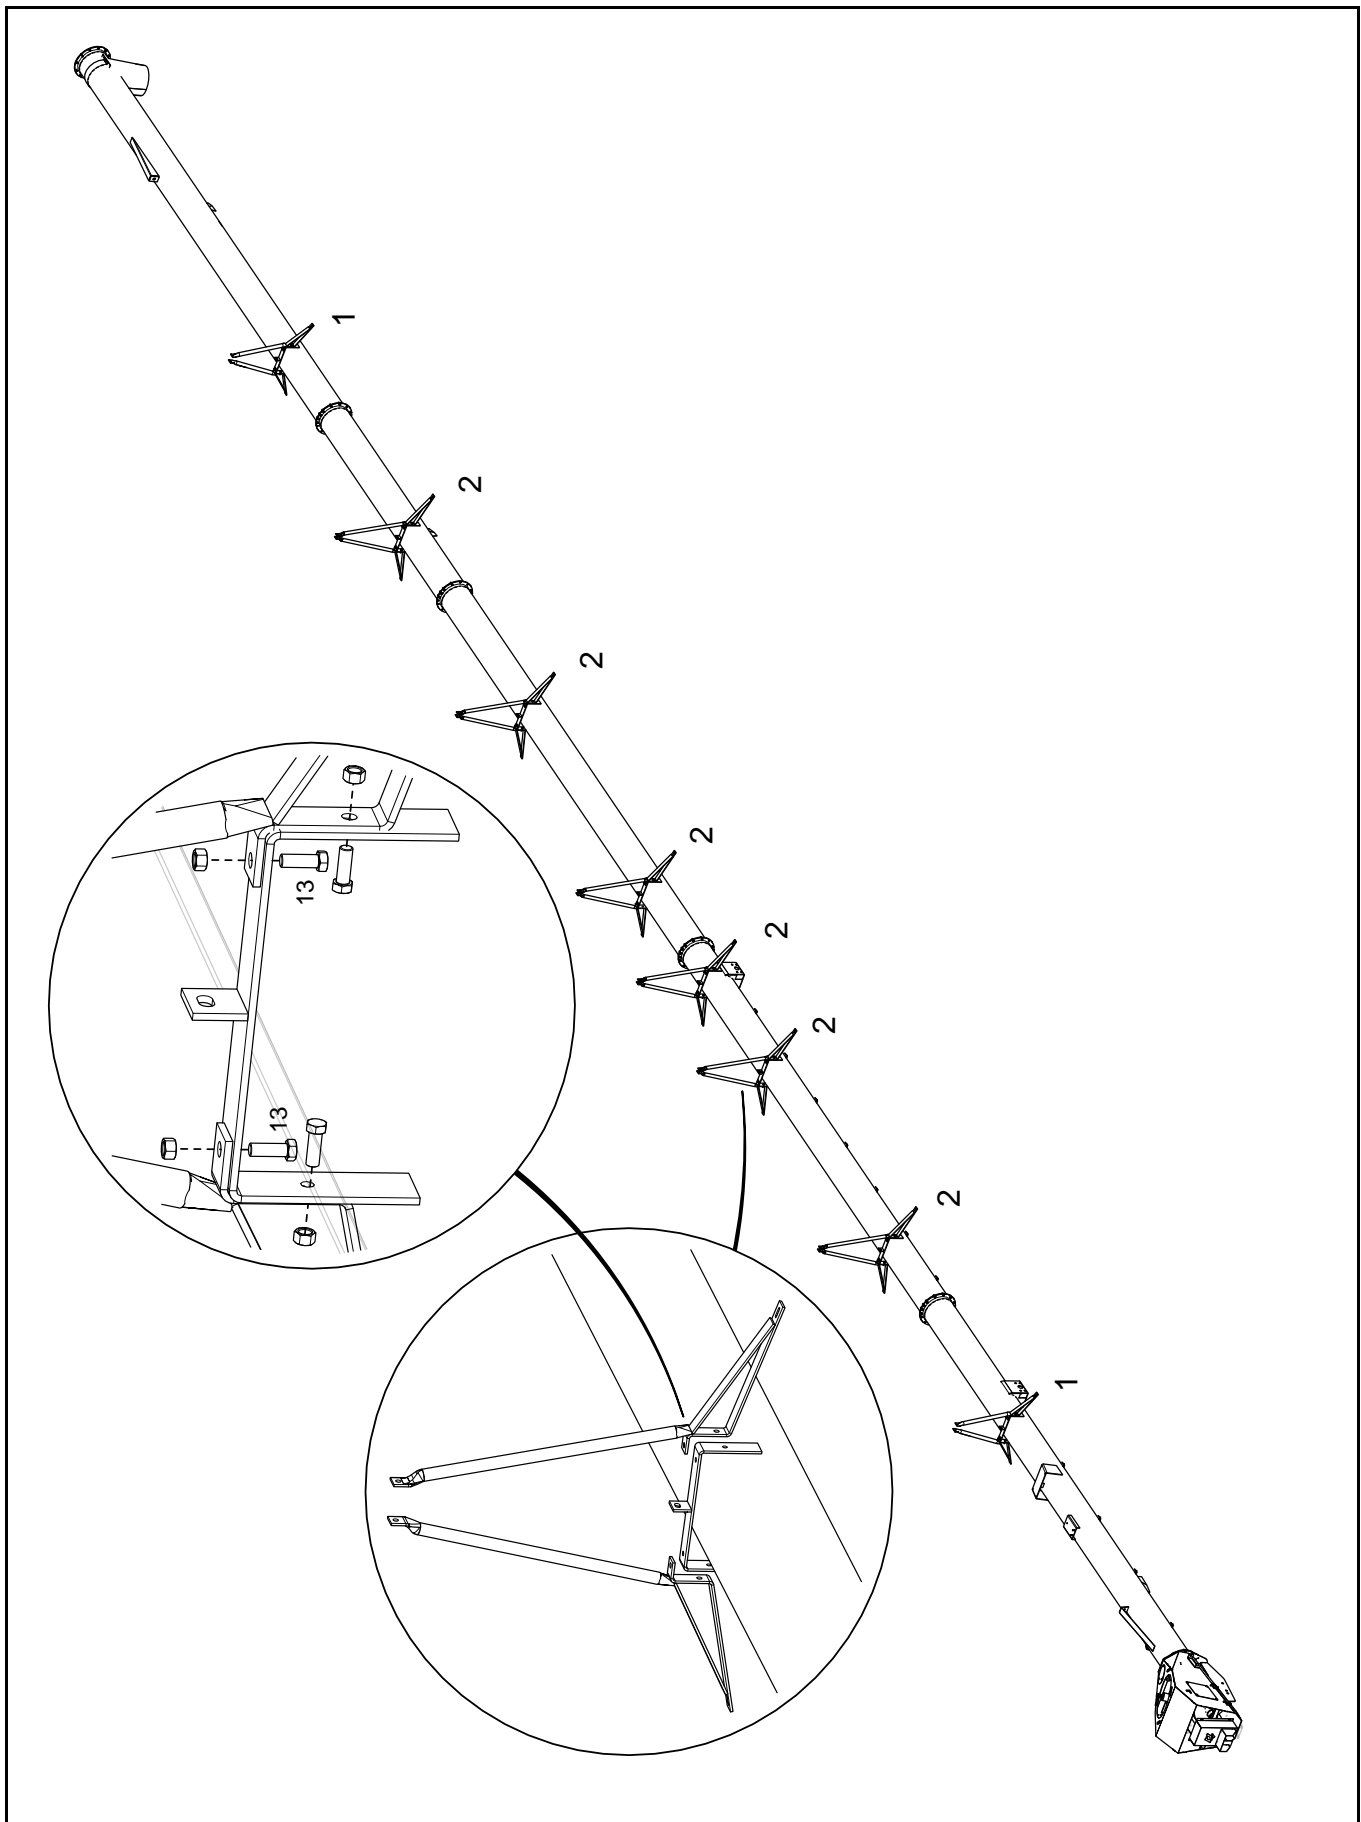
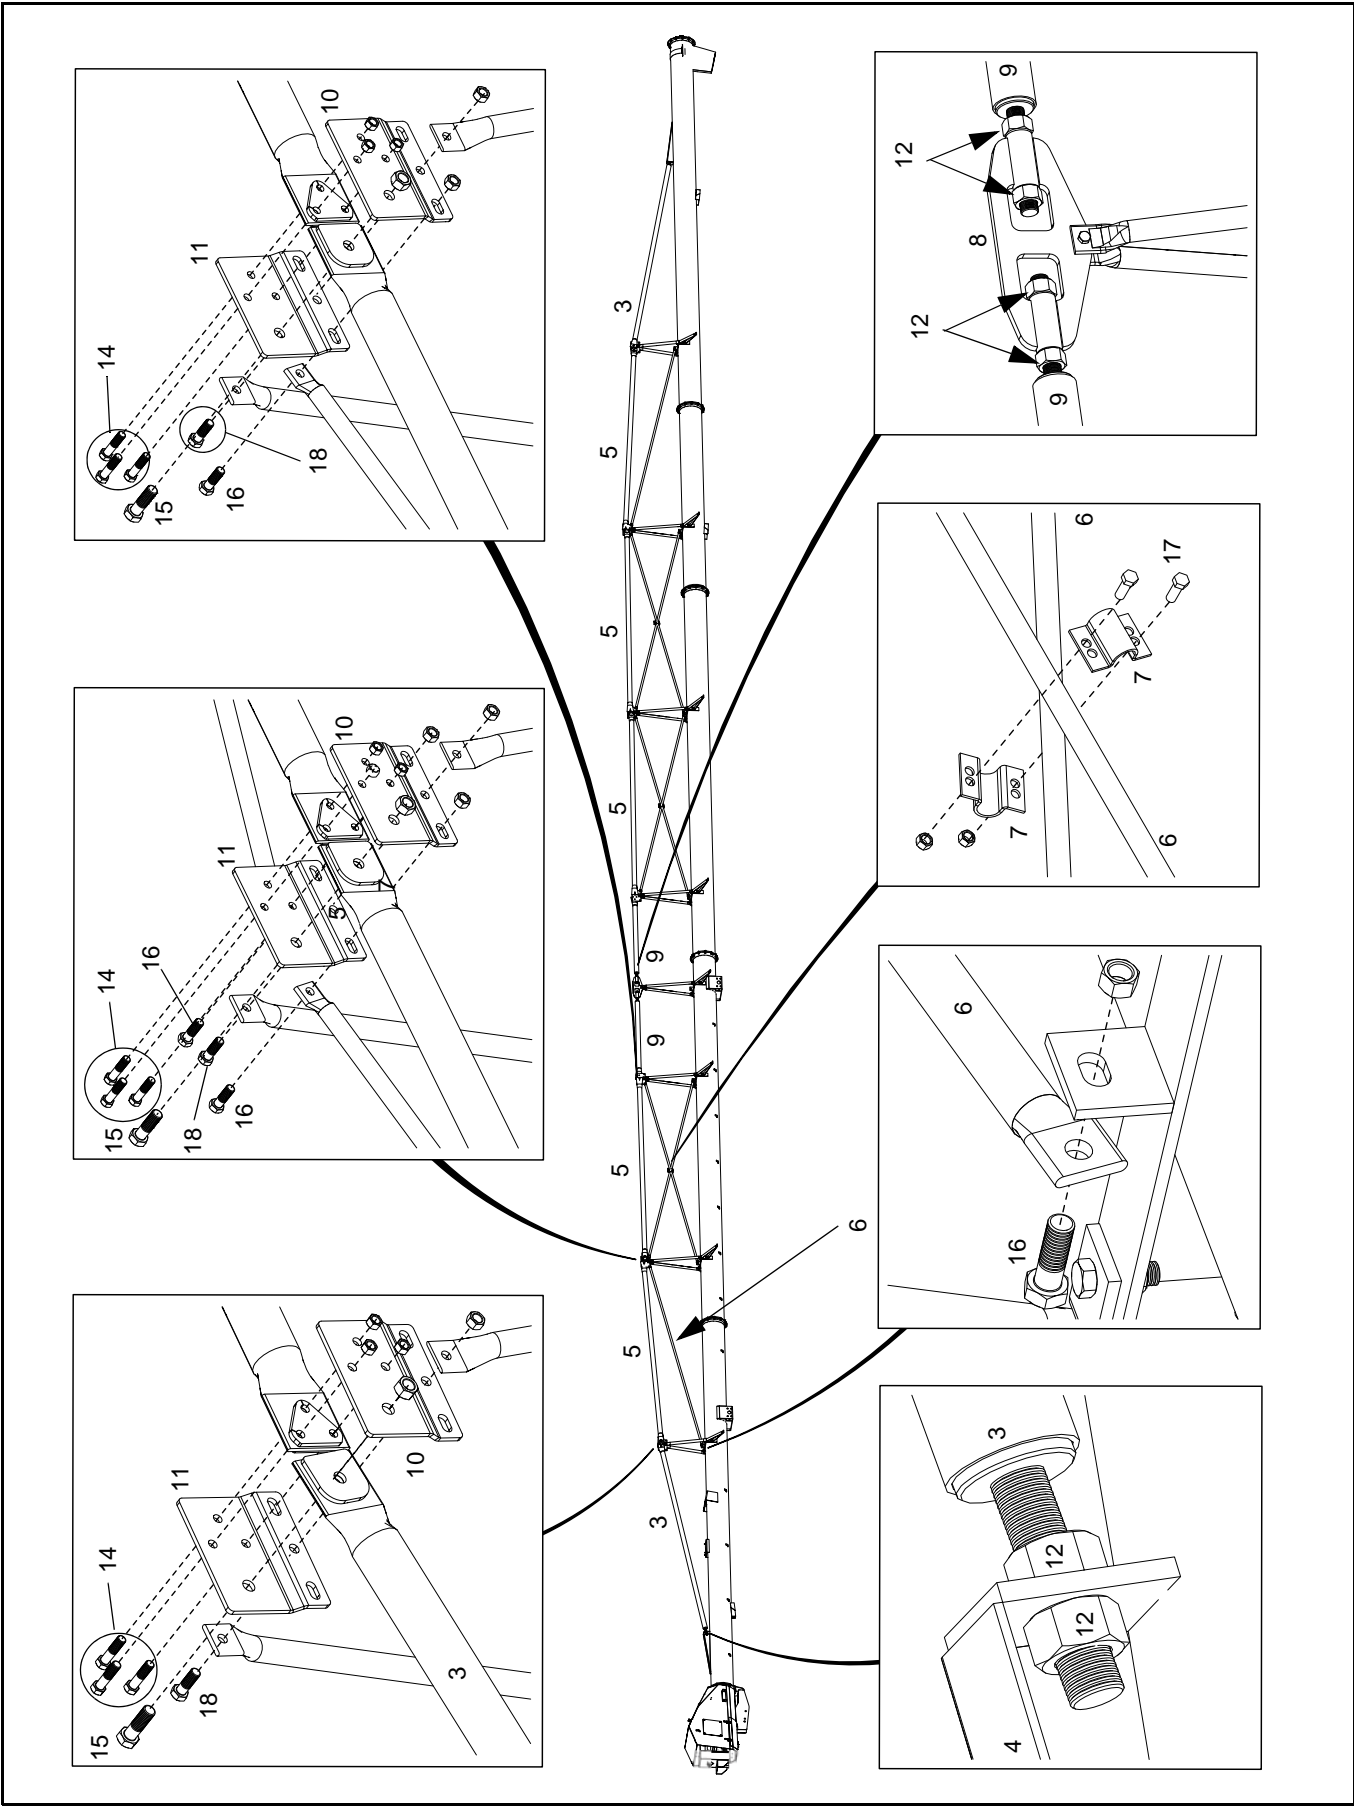

Figure 3.16 X130-94 Truss Towers
Figure 3.17 X130-94 Truss Tubes
- For the X130-94 models, see Figure 3.16 and Figure 3.17.